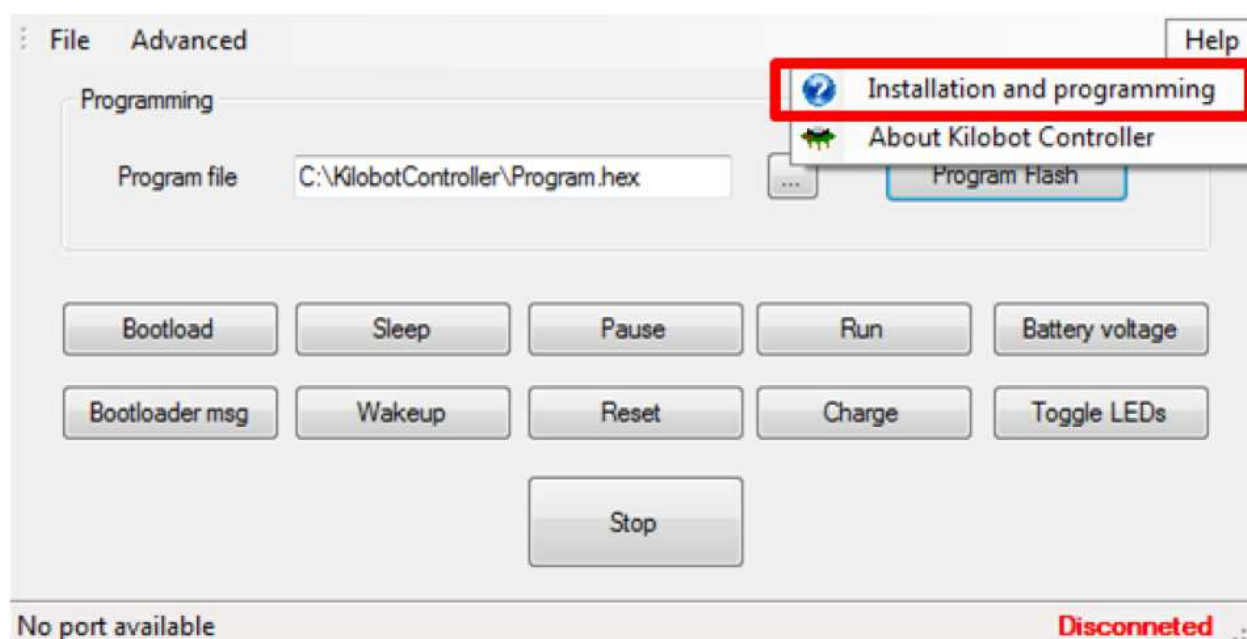

Fig 4.4.1 OHC software
3. In the Help menu of *KilobotController.exe*, select “Installation and programming” and follow the instructions to install the software and drivers (Fig 4.4.1).